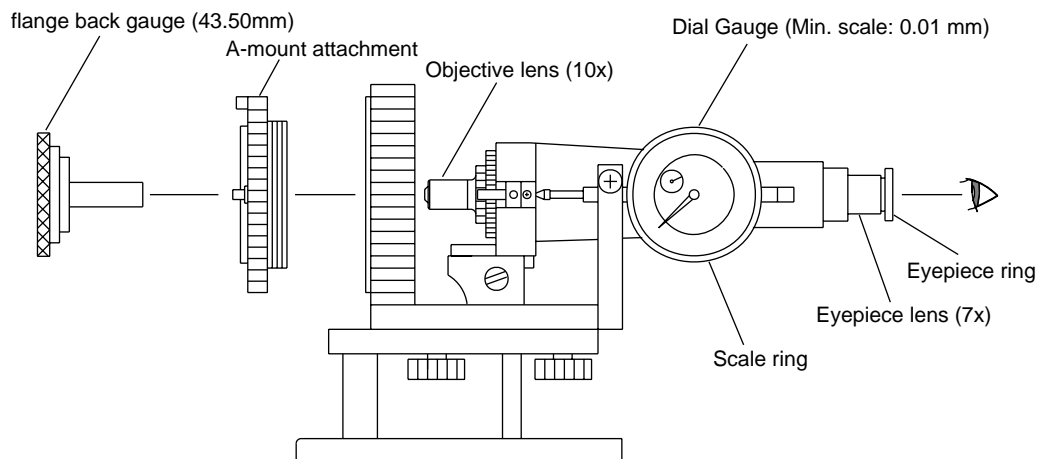

Fig.4-3-1
- 1) Set the equipments as shown in the Fig.4-3-1.